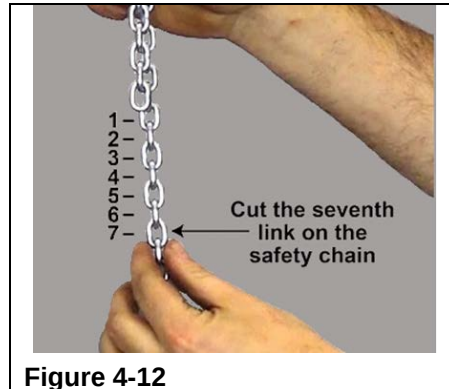

Figure 4-12
- Step 23. Count down seven links from the end of the load chain. Cut the seventh link so the SDS chain is six links longer than the load chain. (Refer to Figure 4-12)